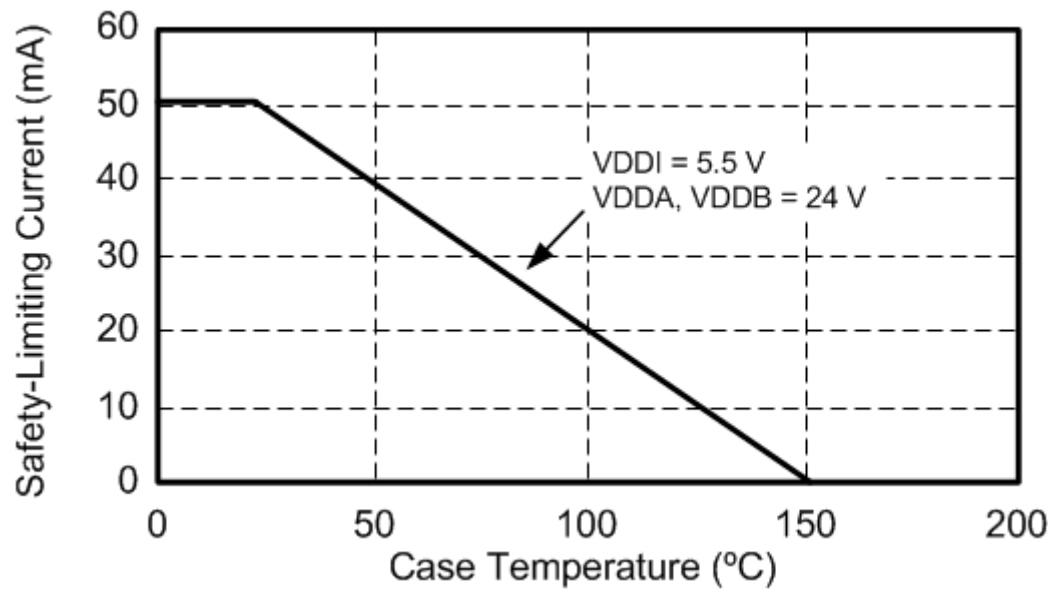

Figure 4.4. WB SOIC-16, NB SOIC-16 Thermal Derating Curve, Dependence of Safety Limiting Values with Case Temperature per VDE 0884-10
- Maximum value allowed in the event of a failure. Refer to the thermal derating curve in [Figure 4.4 WB SOIC-16, NB SOIC-16 Thermal Derating Curve, Dependence of Safety Limiting Values with Case Temperature per VDE 0884-10](#) on page 23.